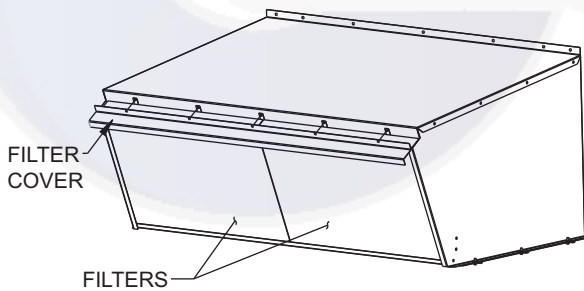

Fig. 38 — Slide Two Filters
14. Slide two 20 x 25-in. filters into cross members of hood assembly. Attach filter cover over filters with screws and speed clips provided. See Fig. 38.